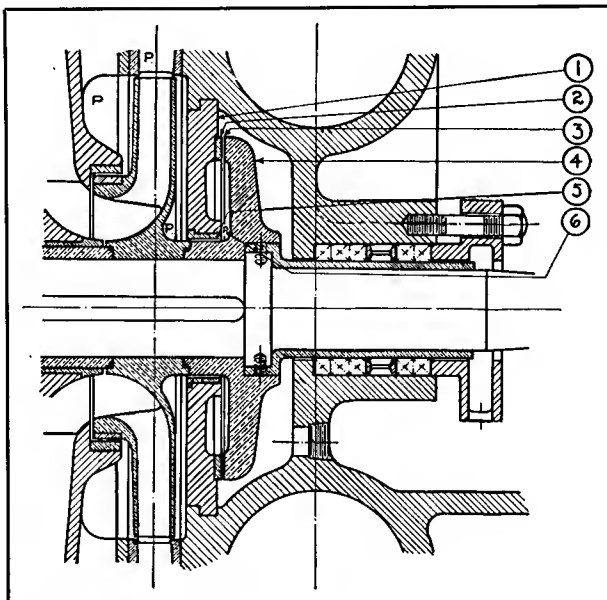

Fig. 17 — Single action balance disc.
B. SINGLE ACTION BALANCE DISC USED WITH "ST" PUMPS (Fig. 17)